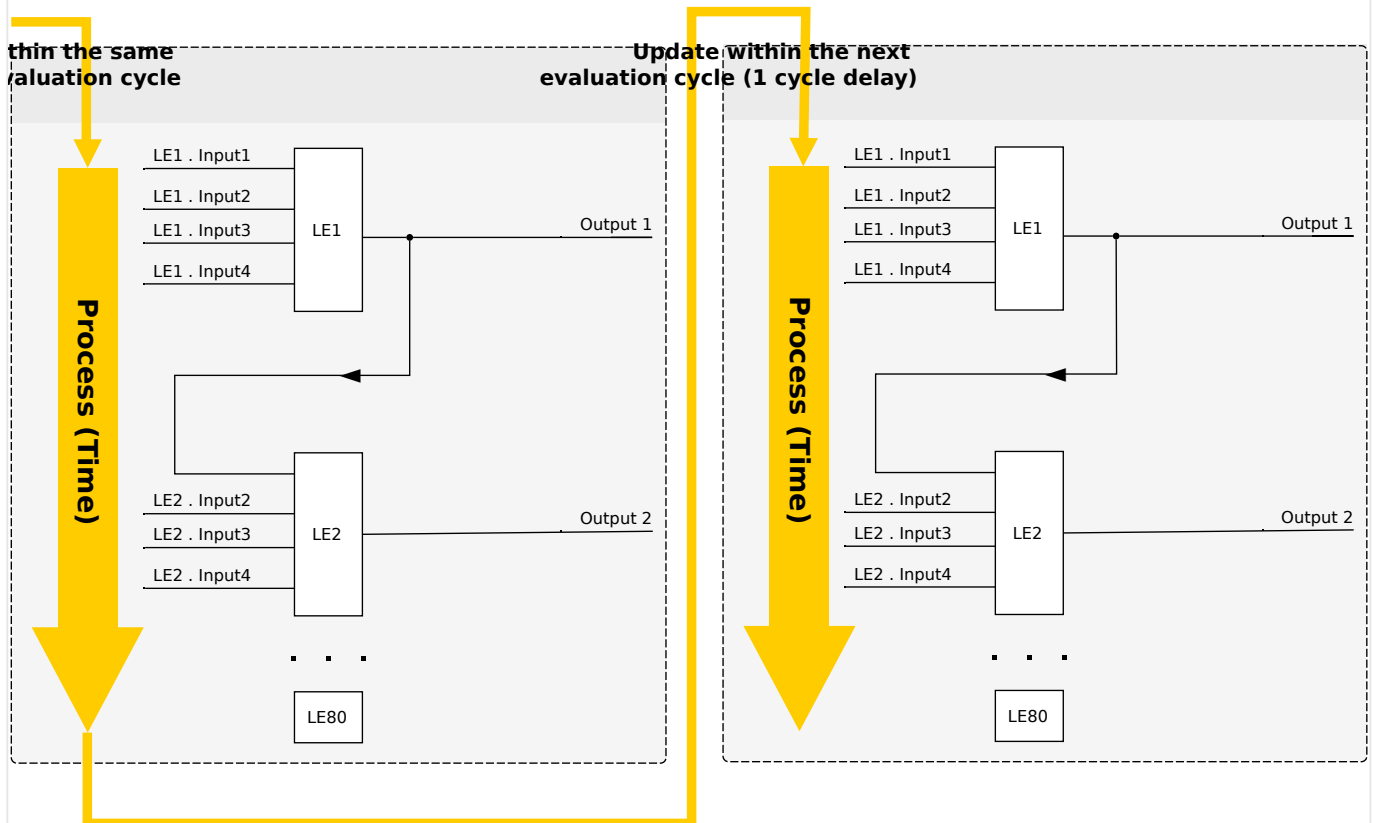
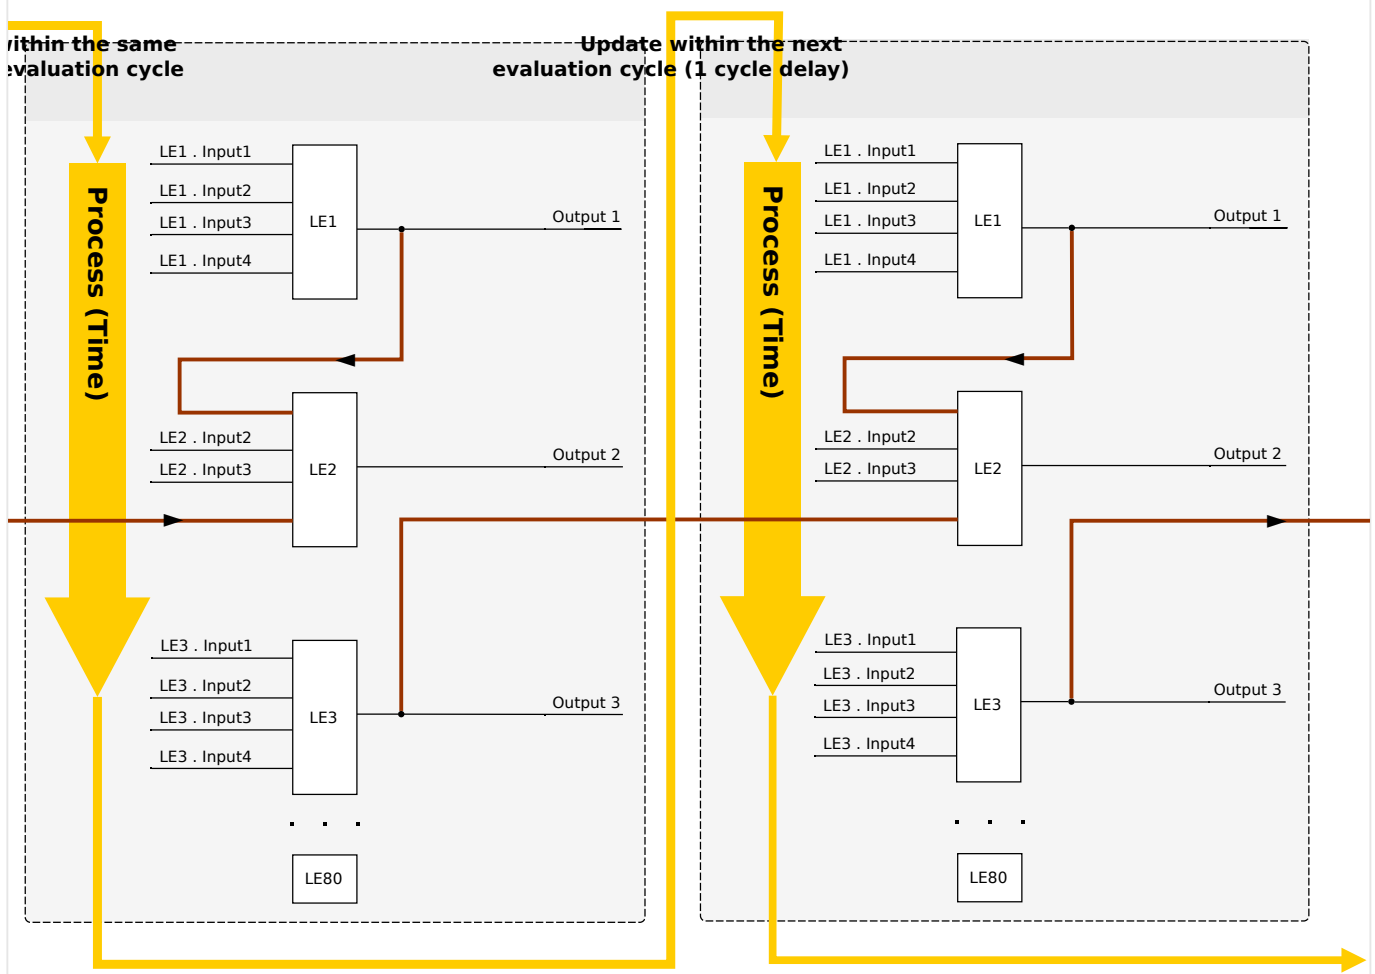

Fig. 102: Cascading in Ascending Order.
Fig. 103: Cascading in Descending Order.
- **Ascending** sequence means that some output is fed into the input of a logic equation with **higher** number. For instance, diagram ↪Fig. 102 below shows an example where the result of Logic Equation LE1 is used as an input of Logic Equation LE2.
- **Descending** sequence means that some output is fed into the input of a logic equation with **lower** number. For instance, diagram ↪Fig. 103 shows an example where the result of Logic Equation LE3 is used as an input of Logic Equation LE2.
Both ascending and descending sequences may be used and combined one with the other, with no immediate difference. However, due to the evaluation of all equations in ascending order the actual run-time values that are fed in at the input of an equation will have a different “age”, as is shown in ↪Fig. 102 and ↪Fig. 103 below.
In the example shown in Fig. 103 above, “Logic Equation 2” uses the output states of two other equations, “Logic Equation 1” and “Logic Equation 3”. The result of “Logic Equation 1” is used in ascending order and has therefore been evaluated within the same process cycle. The result of “Logic Equation 3” is used in descending order and has therefore been evaluated in the previous process cycle.